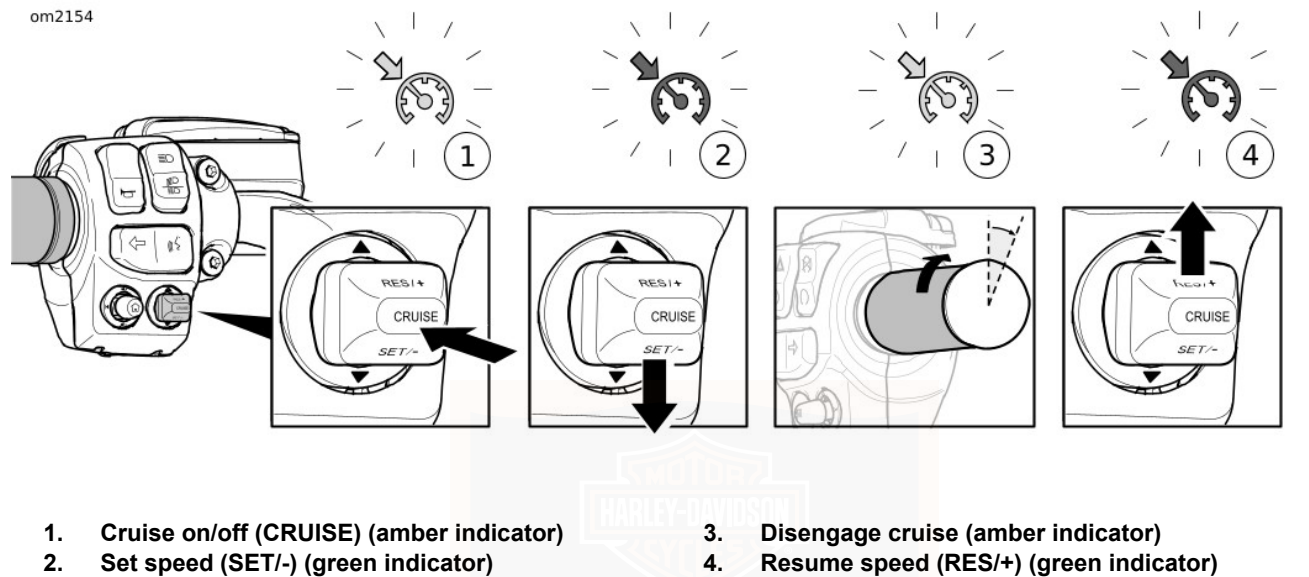

Figure 27. Cruise Control (typical)
See Figure 27. Press the CRUISE switch to turn on cruise (1). When on, the cruise icon in the speedometer face glows amber.
See Figure 27. When the motorcycle reaches your intended speed, press the SET/- switch down to set the cruise speed (2). The amber cruise icon changes to green.
See Figure 27. To drop out of cruise speed, roll the throttle closed through the roll-off switch (3).
See Figure 27. If cruise has been disengaged yet the cruise indicator is amber, pressing the RES/+ switch up resumes cruise (4). The icon glows green. The motorcycle automatically resumes cruise at the set speed.